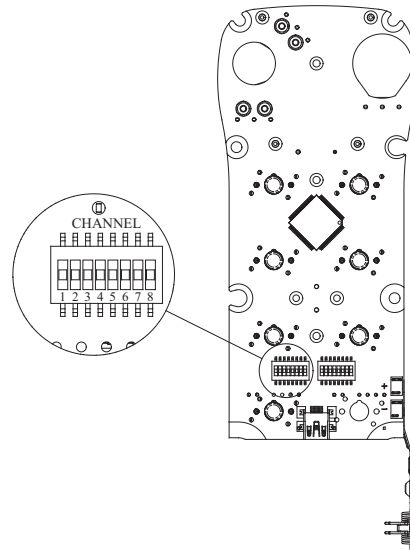
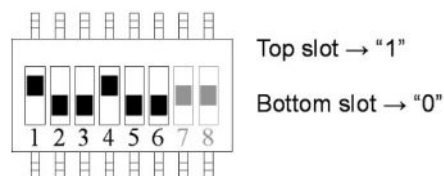

Fig. 11
Fig. 12
Set the transmitter channel by adjusting the channel dipswitch located on the backside of the transmitter encoder board (see Fig. 11). Only the first six (6) positions are used for channel programming (see Fig. 12). The system channels table in **Section 5 on page 53** illustrates which dipswitch setting corresponds to which channel. Once the transmitter channel is altered, be sure to change the receiver channel as well. The channel on both the transmitter and the receiver must be identical in order for the system to work. To change the receiver channel, see **Section 4.2.1 on page 41**.